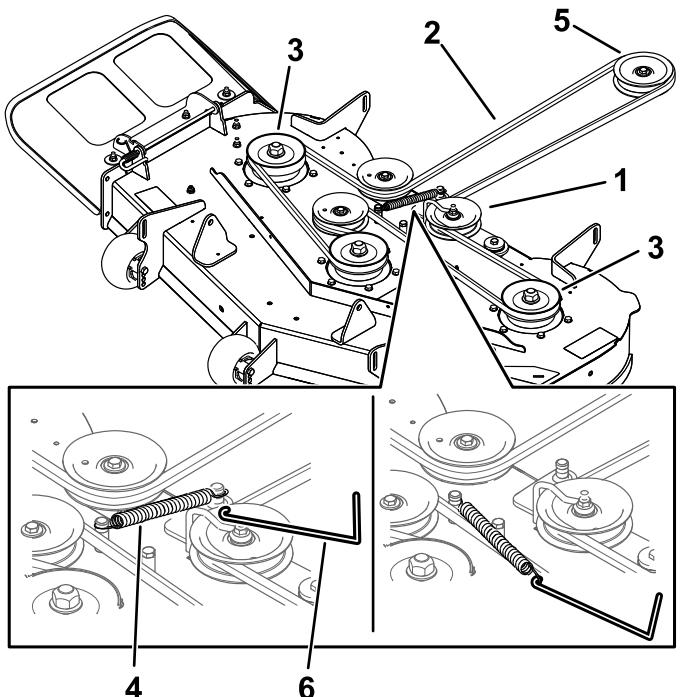

Figure 50
5. Using a spring-removal tool (Toro Part No. 92-5771), remove the idler spring from the deck hook to remove tension on the idler pulley and roll the belt off the pulleys (**Figure 50**).
6. Route the new belt around the engine pulley and mower pulleys (Figure 50).
7. Using a spring-removal tool (Toro Part No. 92-5771), install the idler spring over the deck hook and place tension on the idler pulley and the mower belt (Figure 50).